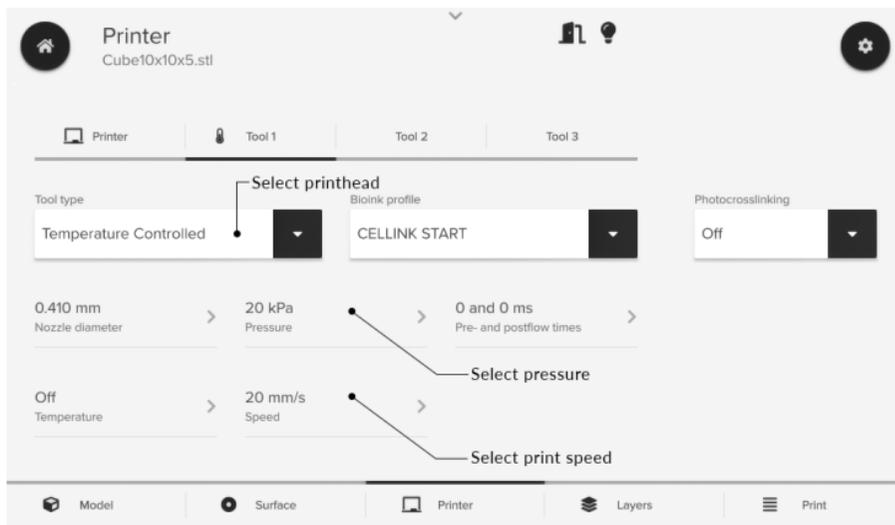

Figure 14: Printing parameters to set on the Printer menu.
- Select the tool position where the printhead has been attached. Ensure that Temperature-controlled is selected under the tool type (Figure 14).
- Enter the desired printing parameters for the printhead (Figure 14). Proceed to the Layers menu when finished. Parameters necessary for the pneumatic printhead include: